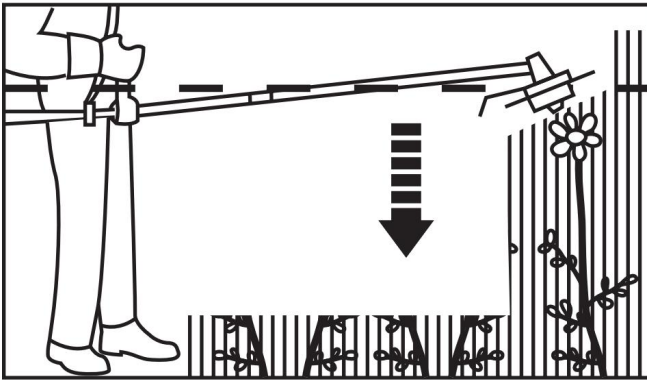

Fig. 43
4. Never hold the cutting head higher than your hip (Fig. 43); the higher you hold the cutting head will increase the risk of objects being thrown.